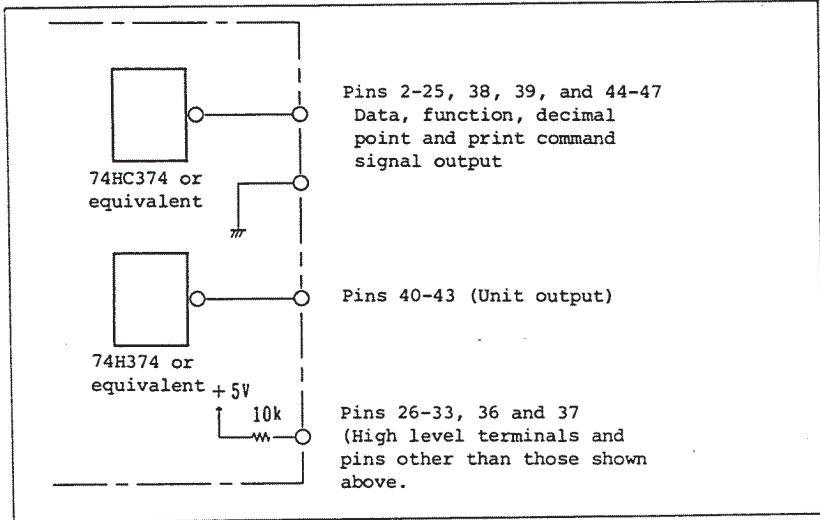

Figure 6-3 TR13008 Output Circuit
- ① Check for the input level of the equipment to be connected. The output circuit of the TR13008 is as follows. (Figure 6-3)
- ② The output data is issued at each output of the print command signal. Use this print command signal as the strobe signal for fetching data to the external equipment.